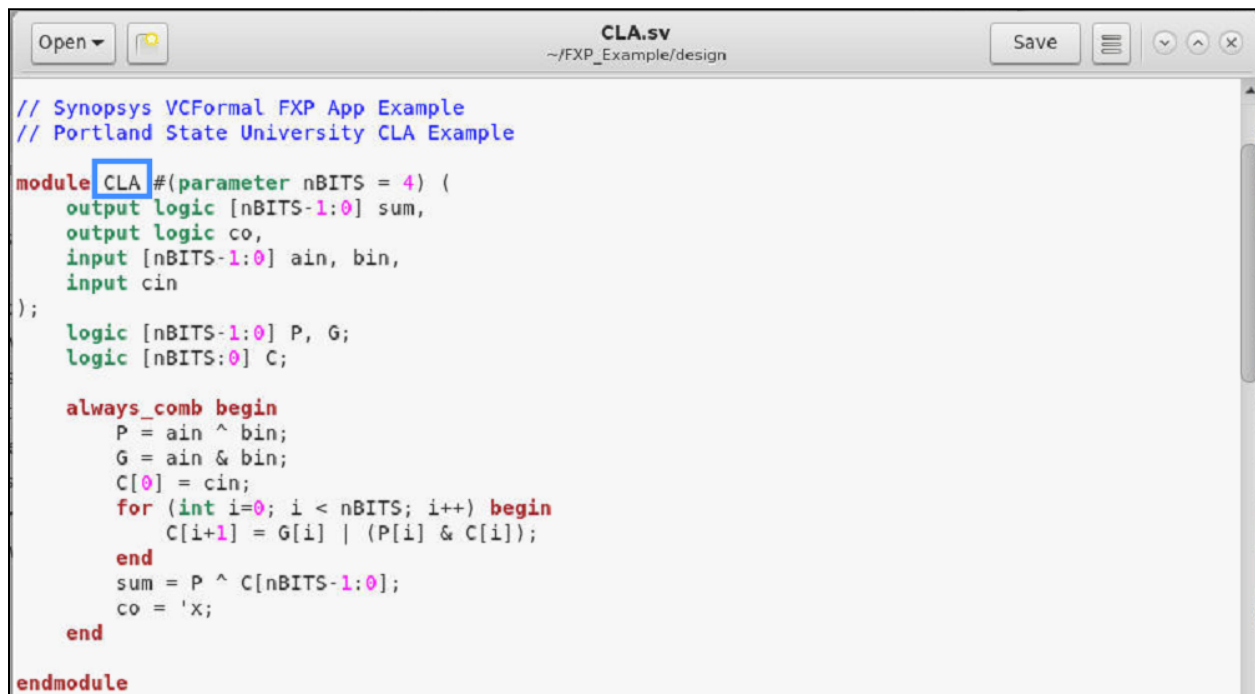

Figure 3. Example of the design we are using in this tutorial.
In order for VC Formal to map your design, you need to acknowledge and keep note of your exact module name, as highlighted in Figure 3 above. This will come in handy when you create your TCL file. To make things simple, we suggest naming your design file after its corresponding module name (more on this in the TCL File section below).
- (1) Instruction that sets the appmode to FXP in VC Formal.
- (2) Name of the main module as established in the Design file.
- (3) SystemVerilog assertions (or conditions - automatic for FXP app)
- (4) Design file location so VC Formal knows where to find the file.
- (5) Generates default points for FXP checking.
- (6) This will help identify where a failed FPX check came from.
As mentioned before, VC Formal is case AND character sensitive, and in order for it to map your designs, you will need to use the same module name in the TCL script (2) and the module name in the design file. For example, we can see that our module name in the TCL script is the same as the module name in the design file in *Figure 3*.